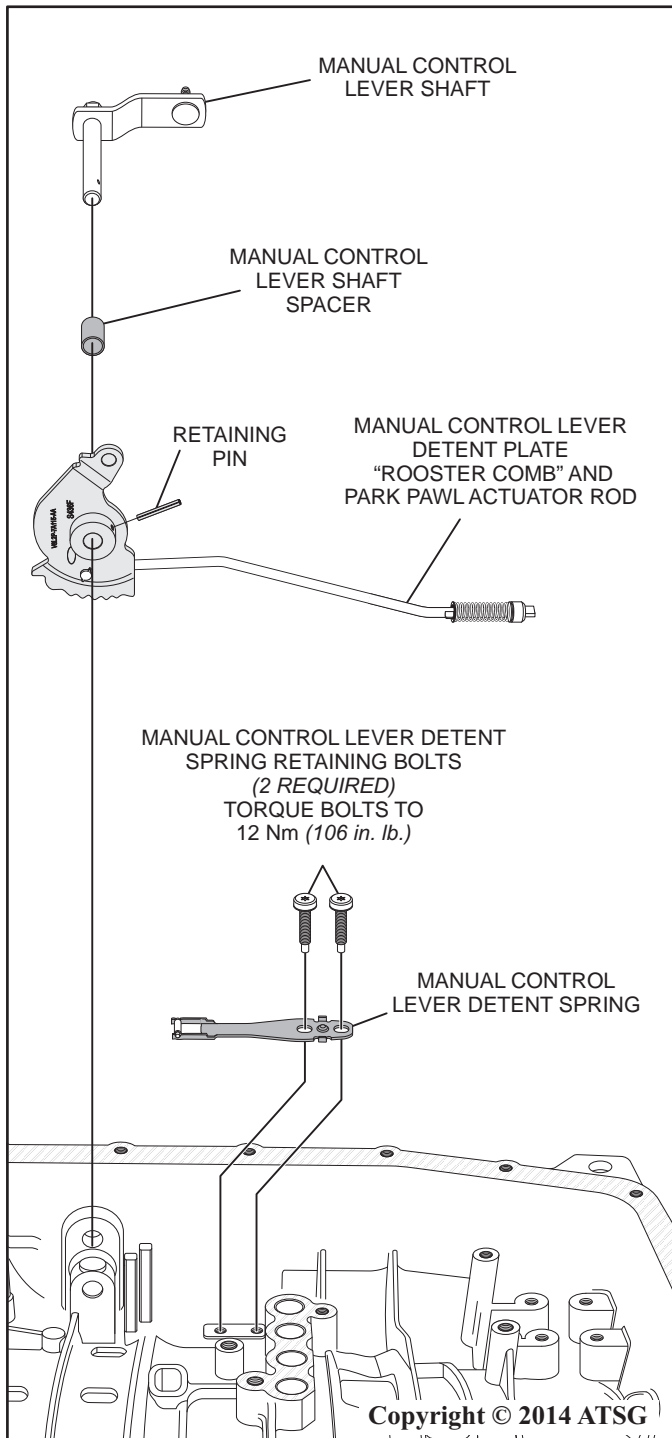

Figure 150
45. Install the manual control lever detent spring and the two retaining bolts and tighten the bolts to 12 Nm (106 in. lb.) as shown in Figure 150.
46. Install the manual control lever shaft into the case as shown in Figure 150.
47. Next install the manual control shaft spacer onto the shaft and through the manual control lever detent plate and park pawl actuator rod. Align the holes in the manual control lever shaft and the manual control lever detent plate and install a new retaining pin. Then seat the pin with a small hammer and drift punch as shown in Figure 150.